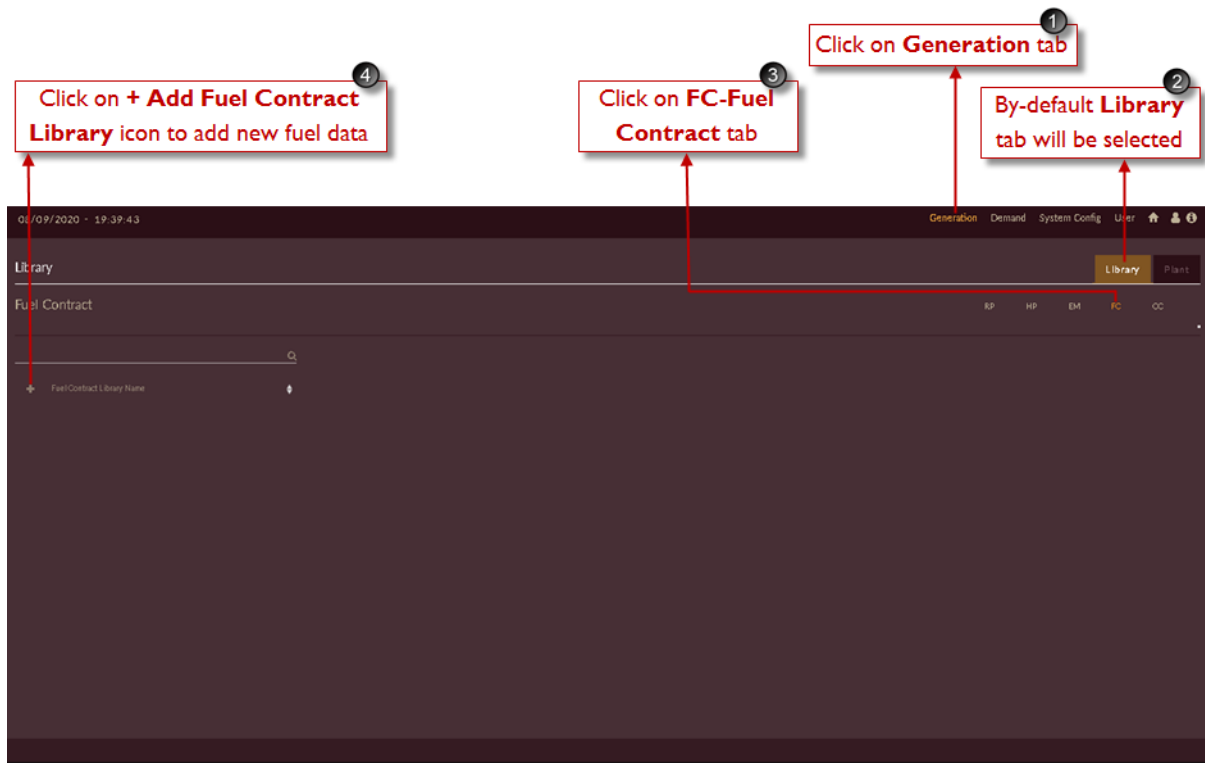

Figure 127. Steps to Add Fuel Contract Library
1. Click on **Generation** tab. The **Generation** tab appears as shown in Figure 127